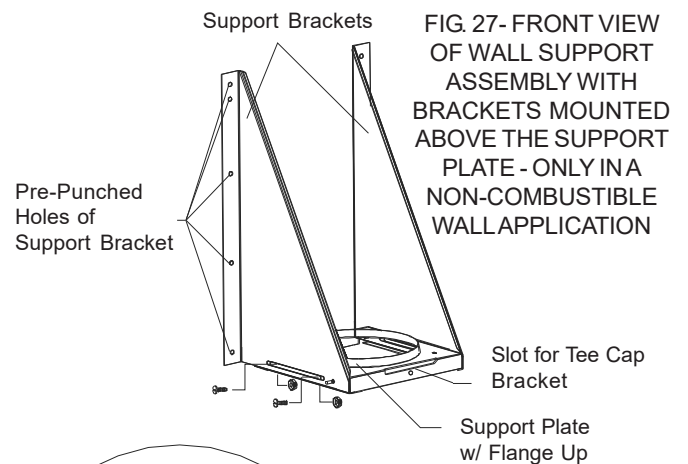

FIG. 27- FRONT VIEW OF WALL SUPPORT ASSEMBLY WITH BRACKETS MOUNTED ABOVE THE SUPPORT PLATE - ONLY IN A NON-COMBUSTIBLE WALL APPLICATION
NOTE: If ground clearance does not permit the installation of the Wall Support with the Support Bracket facing down, it is permissible to invert these brackets, if in a non-combustible wall application. Inverting the brackets (brackets mounted on the wall above the support plate) can be accomplished by rotating the Support Plate so that the threaded stud faces toward the front and securing each side with (2) #8 x 3/4" bolts (not supplied) through the oblong slots of the support side brackets and the support plate as per Figures 27 and 28. Secure with nuts. In this position, the range of adjustability is limited to 5" from the wall (see Table 4). Install the Insulated Tee Cap as per step 15.
Attach the support brackets to the support band with the 1/2" nuts, bolts and lock washers. The lock washer is placed between the band and support bracket to provide proper spacing as shown in Figure 27.